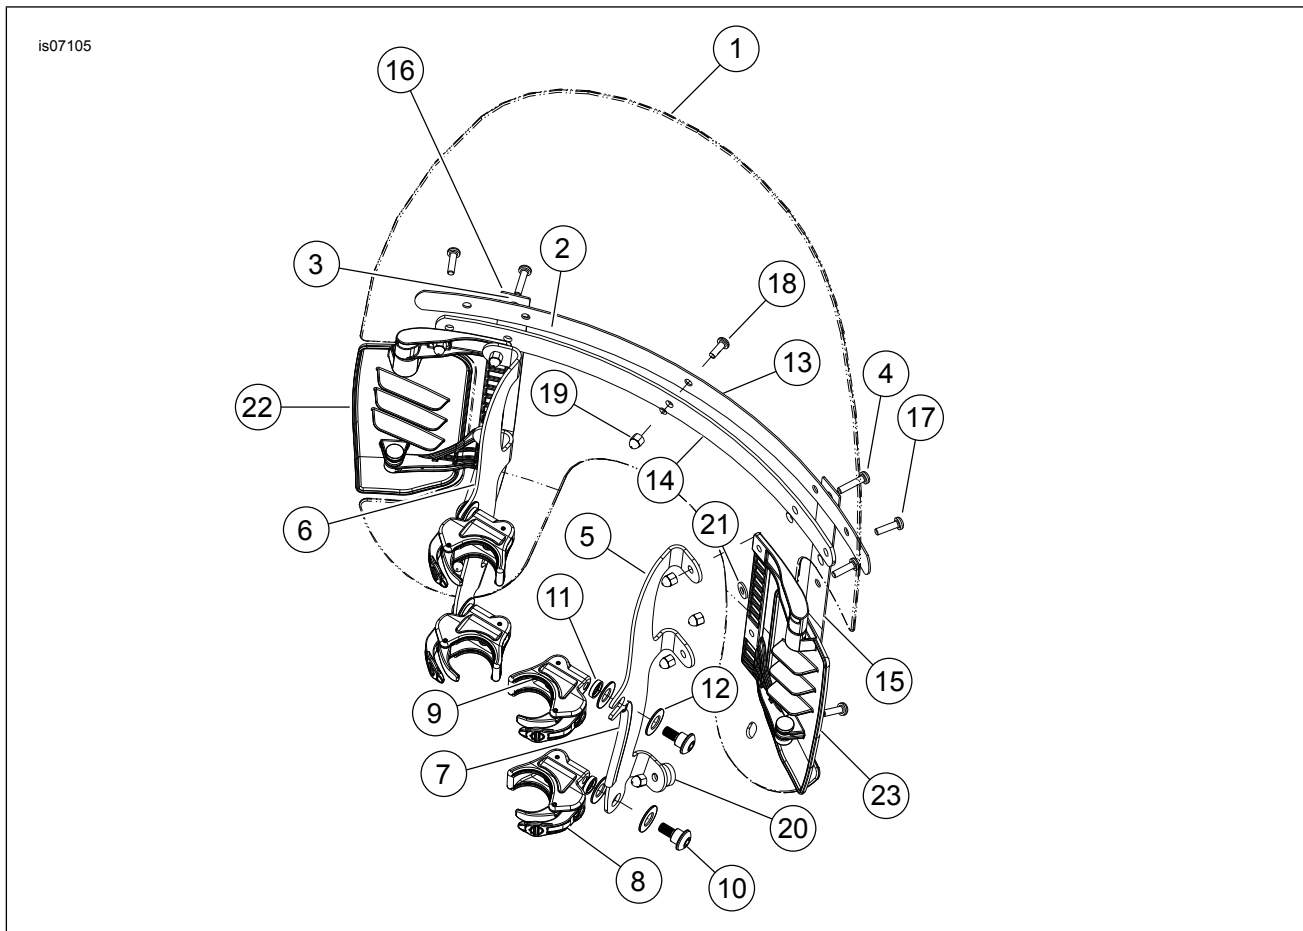

Figure 12. Service Parts: Vented Detachable Windshield
2. See Figure 12. Remove both clamp and hardware kits from packaging, and separate similar parts in preparation for assembly.
5. See Figure 12. Install windshield bracket edge trim piece (7) to protect against abrasion of throttle cables. The trim should be mounted between clamps on right-side windshield bracket, pushed all the way up to upper clamp mount hardware. Turn handlebars fully to left and right fork stops to confirm that throttle cables move freely.